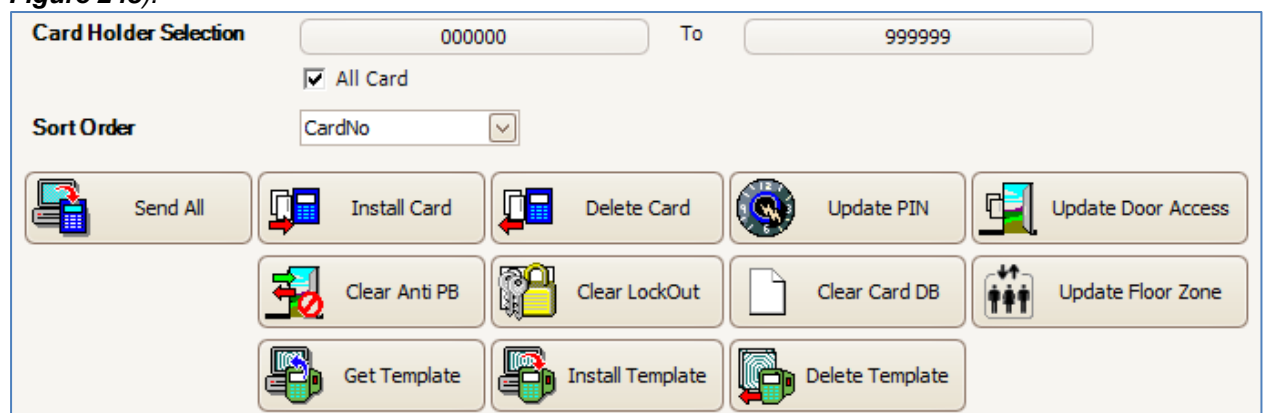

Figure 248 - Card Setting
4. Choose the card holder and the setting that you want to send to the selected controller (*Refer Figure 248*).